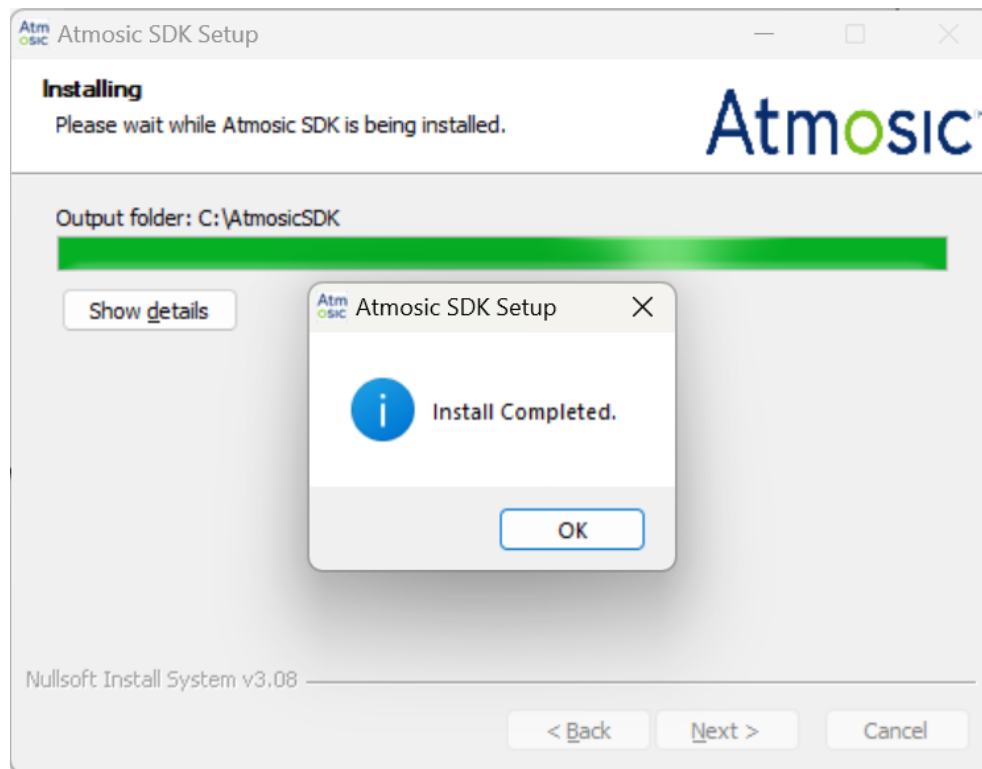

Figure 6 - Installation Completed
- Figure 6 - Installation Completed
The Windows Installer will pop up a message to notify the installation is completed, click OK to close the Windows Installer. See Figure 6.